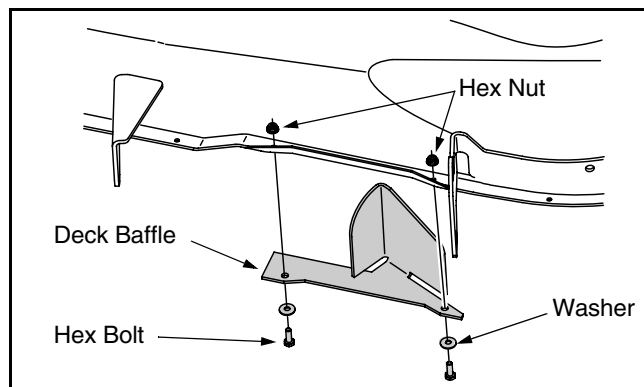

Figure 6
- Remove two of the self-tapping deck screws on the front right side of your deck. See Figure 6.